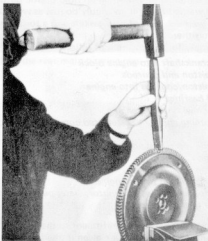

Fig. 1.30. Splitting off the ring gear to remove it from the flywheel (Sec. 35)
- 5 The ring gear may be removed by drilling a 0.24 inch (6 mm) diameter hole, some 0.32 inches (8 mm) deep into the ring gear. This hole should weaken the gear sufficiently for a sharp blow with a cold chisel, right by the drilled hole, to break the gear. Once the gear is broken it can be lifted from the flywheel (Fig. 1.30).